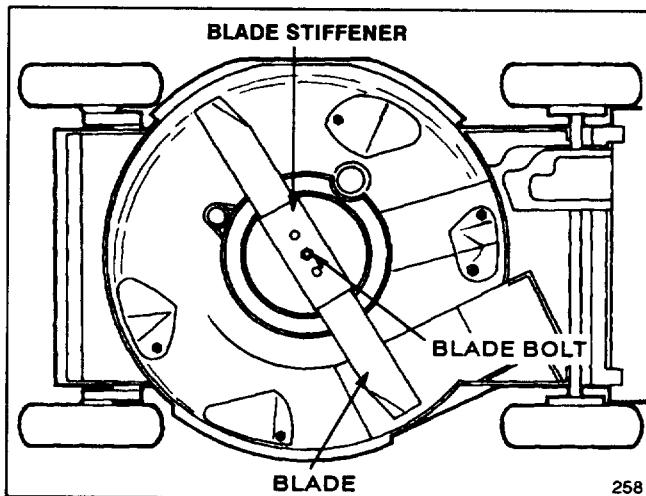

Figure 21
3. Tip mower on its right side (Fig. 21). Avoid rotating the blade because starting problems may result.
5. REMOVING BLADE—Grasp end of blade using a rag or thickly padded glove. Remove blade bolt, lock-washer, blade stiffener, and blade (Fig. 21).